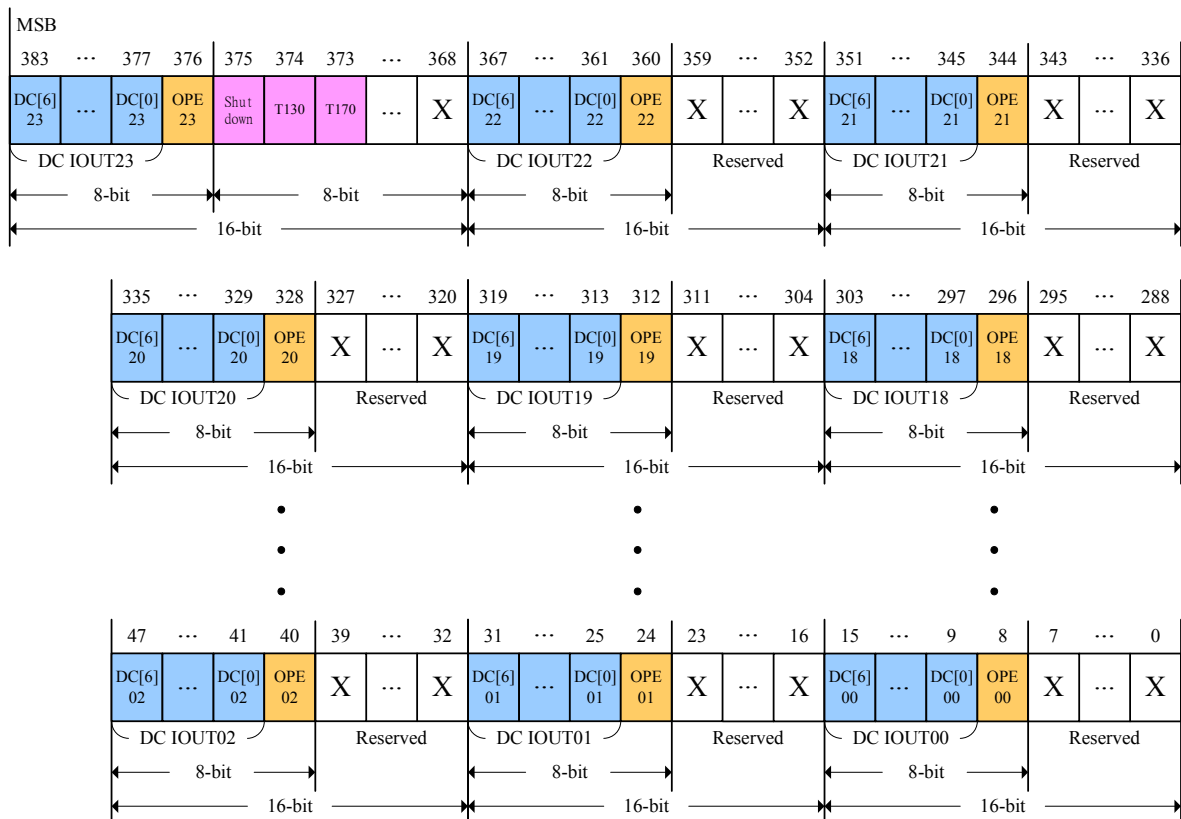

Figure 6. Status Information Data Format (ER[383:0])
When the DM164 operates at GD mode, after the LTH signal latches the input data from shift registers to the data latches, the shift registers data will be replaced by the status information. The status information includes the thermal error signals (Shutdown, T130 and T170,), open error signals (OPE) and dot correction data (DC), which will be transferred out from DOUT pin. Figure 6 shows the status information format.